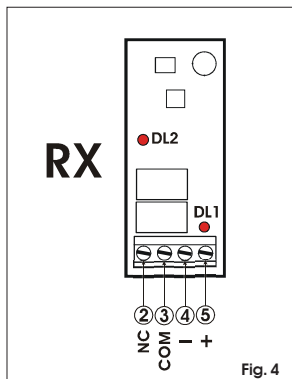
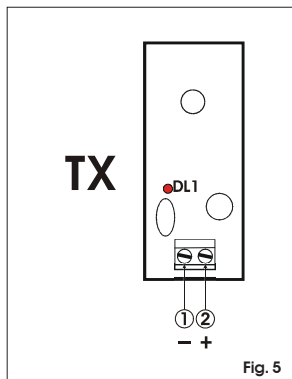

Fig. 4
Fig. 5
- Effect the electrical connections on terminal blocks of Receiver (fig.4) and Transmitter (fig.5) using the cable duct supplied.
- Power up photocells and check that LED DL1 on the Receiver (fig.4) and Transmitter (fig.5) is lit.
- Ensure correct alignment by checking against the light that LED DL2 on the Receiver (fig. 4) is also lit.